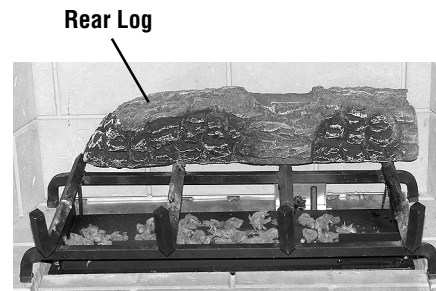

Figure 11
Proper log placement is critical to prevent sooting. Carefully position the ceramic fiber logs over the burner as described in the following steps, and detailed in *Figures 11 through 15*.
Step 2. Place the hole at the bottom of the Rear Log over the pin at the rear of the log grate, as shown in *Figure 11*. The log should rest against the back refractory.